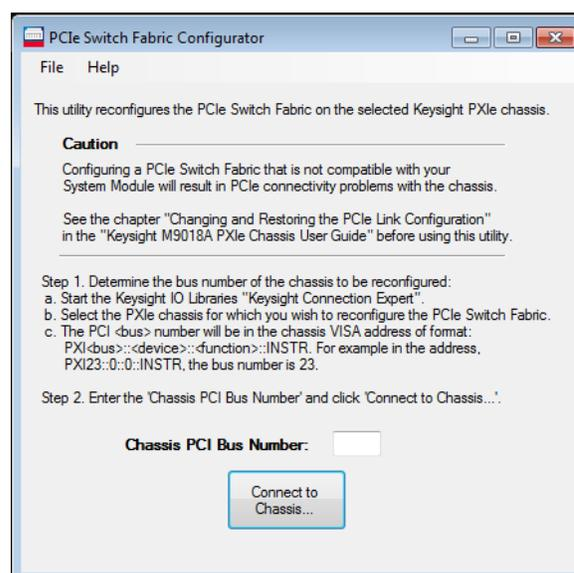

Figure 64 Configurator startup dialog
- 1 The **PCIe Switch Fabric Configurator** utility program is available from the Windows **Start** button; select **All Programs > Keysight > PXle Chassis Family > PCIe Switch Fabric Configurator**. This opens the dialog shown in Figure 64.
- 2 Follow the instructions to enter the chassis bus number. (See also Figure 64)